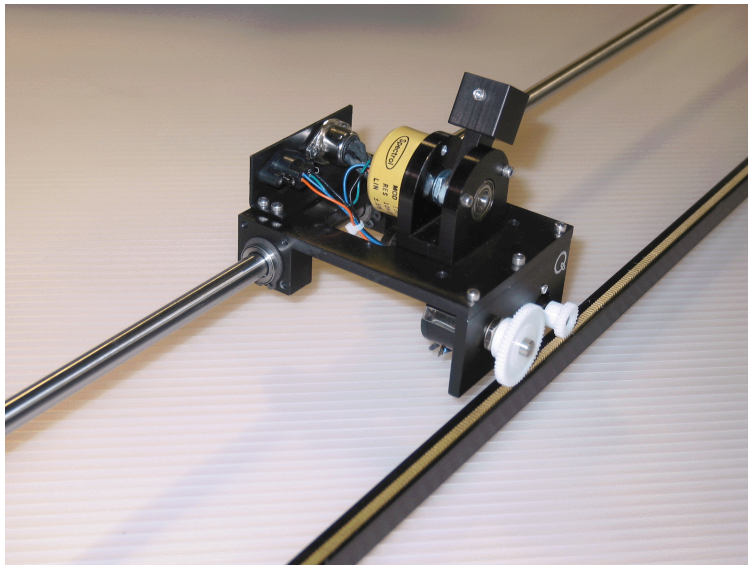

Figure 1 IP01 System
- **Linear Motion Servo Plant:** Quanser IP01 or IP02, as shown in Figures 1 and 2, respectively.